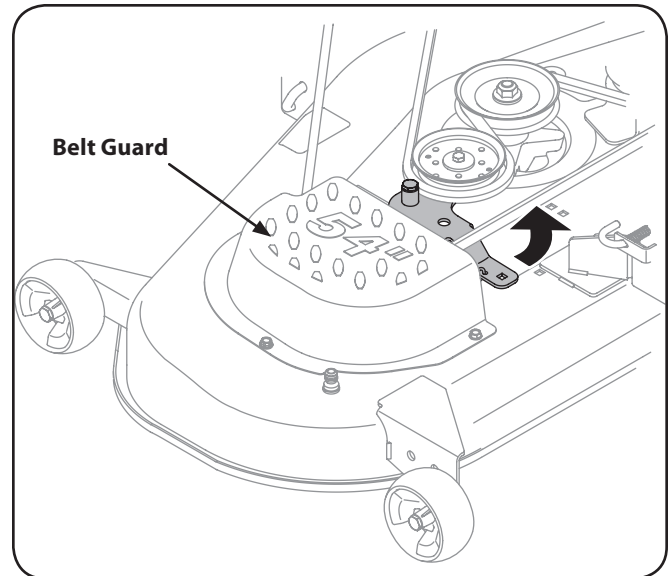

Figure 7-6
**Note:** If there is too much tension on the belt for it to be easily removed from the electric PTO clutch, carefully insert a  $\frac{3}{8}$ -inch drive ratchet wrench (set to *loosen*) into the square hole found in the left-hand deck idler bracket and pivot it toward the tractor's right side to relieve tension on the belt. See Fig. 7-6.
3. Remove the belt guards by removing the self-tapping screws that fasten them to the deck. See Fig. 7-6.